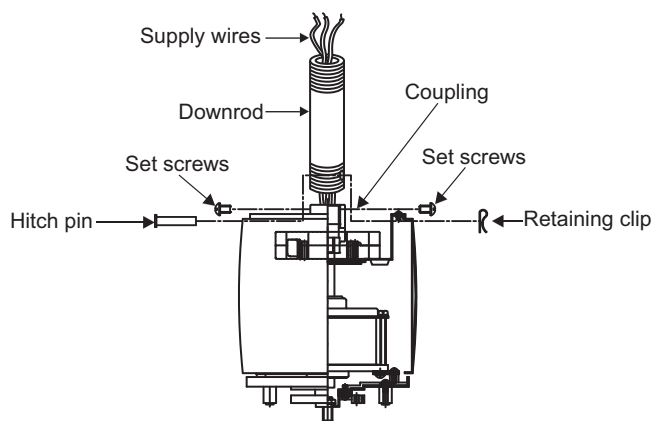

Fig. 9
Step 7. Loosen the two set screws and remove the hitch pin and retaining clip from the coupling on top of the motor assembly. (Fig. 9)
Next, replace the hitch pin and retaining clip. Tighten both set screws. (Fig. 9)